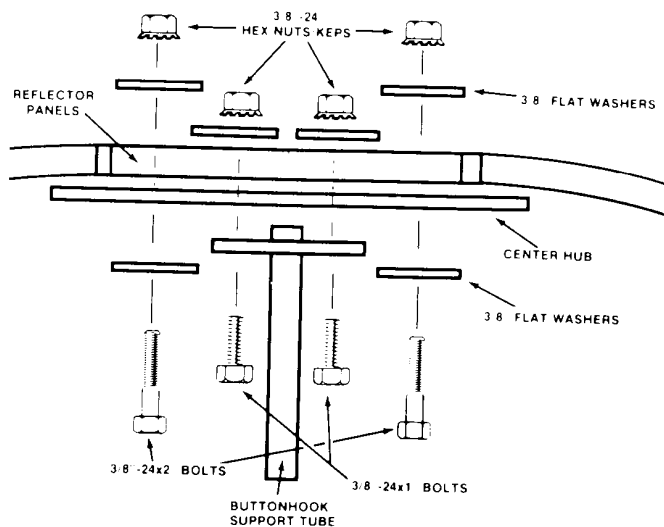

FIGURE 4
**STEP 3:** Attach center support plate to one half of reflector assembly with (2) 3/8"-24x2" bolts. Use flat washers on both sides and secure with hex nuts. See Figure 4.
**STEP 5:** If using a quad feed support, install the 1-1/2" plastic plug in center hole. If using a buttonhook feed support, attach the buttonhook support tube to the center plate with (4) 3/8"-24x1" bolts. Tighten securely. See Figure 4.